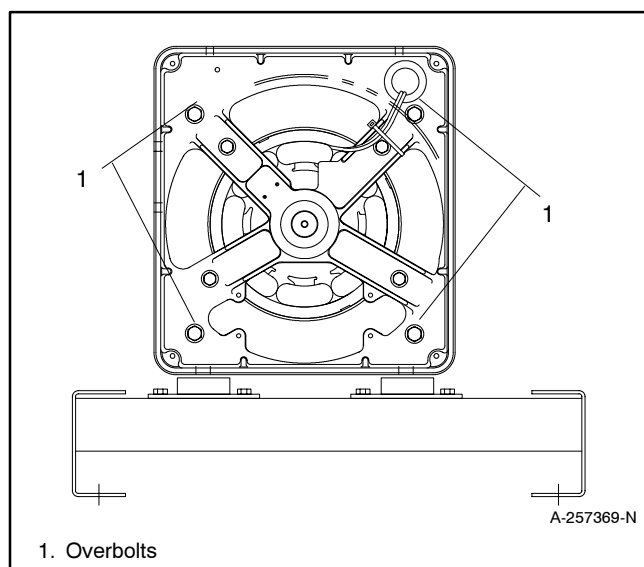

Figure 6-17 Overbolts
12. Remove four overbolts securing end bracket. See Figure 6-17. Leave the exciter field attached to the end bracket. Disconnect leads 2, 16, and 24 from end bracket magnetic pickup.